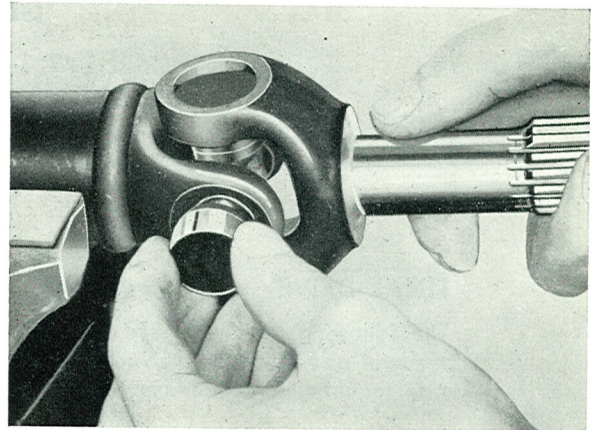

Fig. 4-75. Fitting the spider
2. Insert the spider in the flange yoke. Push over the spider in one direction so far that the needle bearing can be fitted onto the trunnion, see Fig. 4-75. Then press in the needle bearing so far that the snap ring can be fitted. Use a drift having a diameter slightly less than that of the needle bearing sleeve.